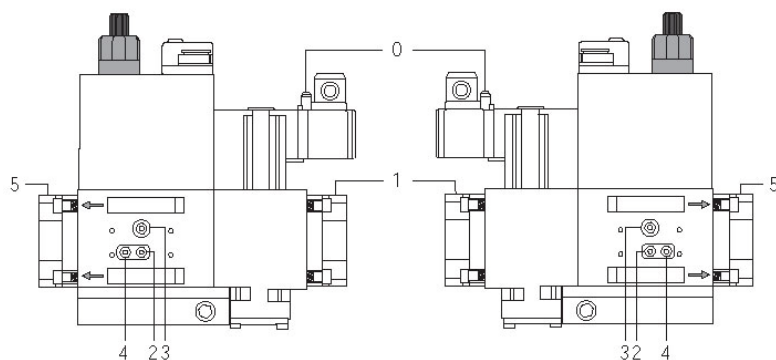
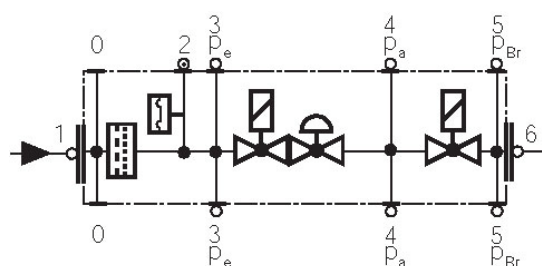

Fig. 22
Fig. 23
- Change the filter if the pressure difference between pressure connection 1 and 2 (Fig. 22-Fig. 23) $\Delta p > 10$ mbar.
- Change the filter if the pressure difference between pressure connection 1 and 2 (Fig. 22-Fig. 23) is twice as high compared to the last check.